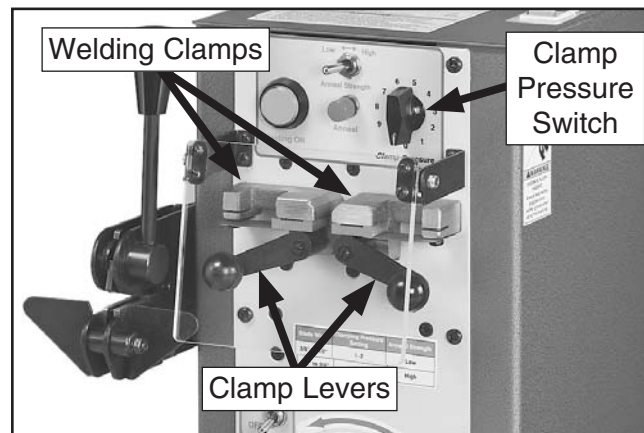

Figure 12. Clamping controls.
3. Rotate the clamp pressure switch (see **Figure 12**) to zero. This spreads the clamps apart to allow proper positioning of the blade ends.